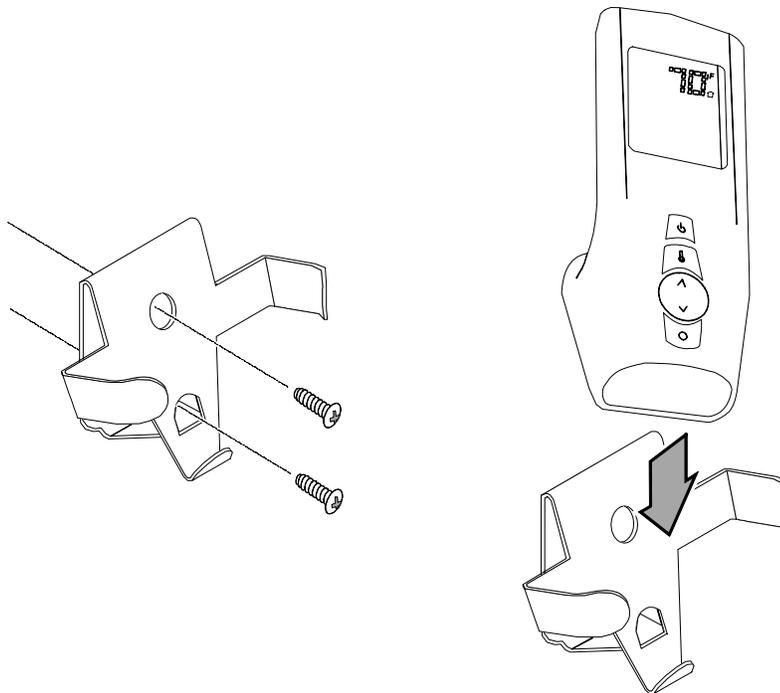

Figure 37
- 24 A wall mount is included with this kit for the remote. It may be mounted to the wall for easy access and storage. Use the included drywall anchors (and screws) to secure it to the wall (see Figure 37).